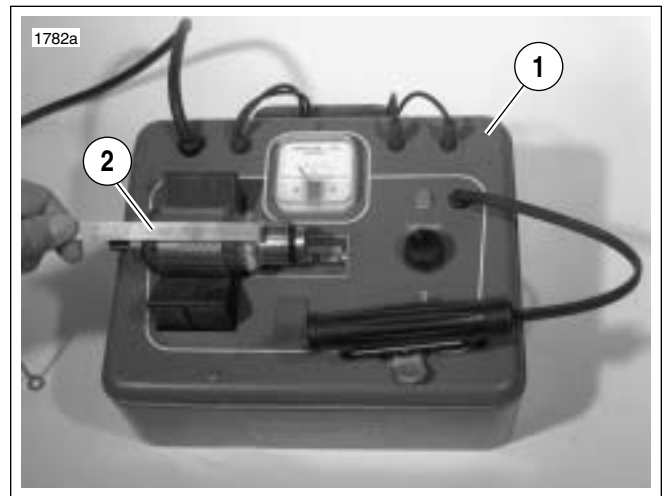
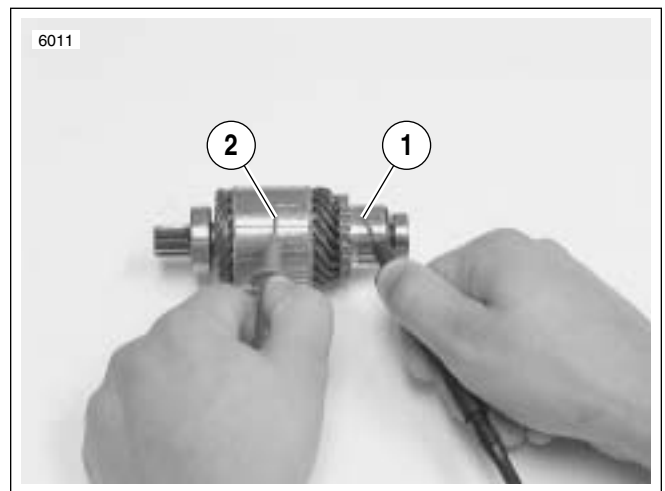
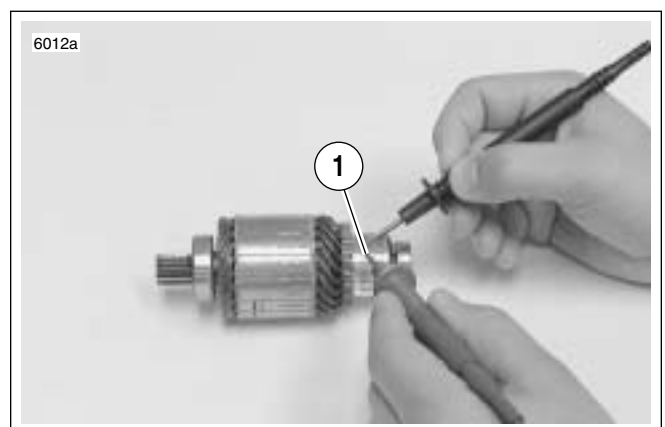

Figure 5-18. Shorted Armature Test Using Growler
Figure 5-19. Grounded Armature Test
Figure 5-20. Open Armature Test
9. See Figure 5-18. Check for SHORTED ARMATURE with a growler.
- a. Place armature on growler (1).
- b. Hold a thin steel strip (2) (hacksaw blade) against armature core and slowly turn armature.
10. See Figure 5-19. Check for a GROUNDED ARMATURE with an ohmmeter or continuity tester.
- a. Touch one probe to any commutator segment (1).
- b. Touch the other probe to the armature core (2).
11. See Figure 5-20. Check for OPEN ARMATURE with an ohmmeter or continuity tester.
- a. Check for continuity between all commutator segments (1).